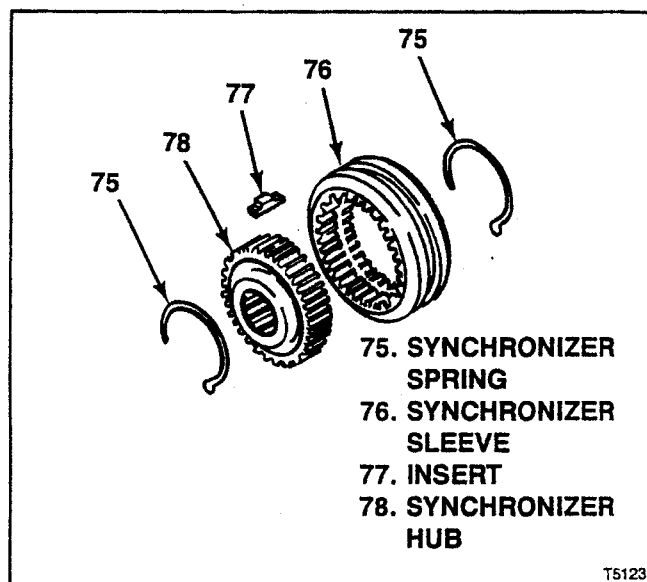

Figure 7-1. T5 NWC 3rd-4th Synchronizer Assembly
- Bearing (39)
- Bearing cone (61)
- Bearing rollers (63)
- Thrust bearing (64)
- Bearing cone (68)
- Needle bearing (71)
- Bearing (101)
- Bearing (103)
7-6. ASSEMBLY OF T5 NWC 3RD-4TH SYNCHRONIZER ASSEMBLY (see figure 7-1). Be sure to assemble sleeve (76) and hub (78) aligning marks made at disassembly (see figure 7-2) so that clutch teeth and part faces are assembled exactly as they were originally. Assemble as follows: